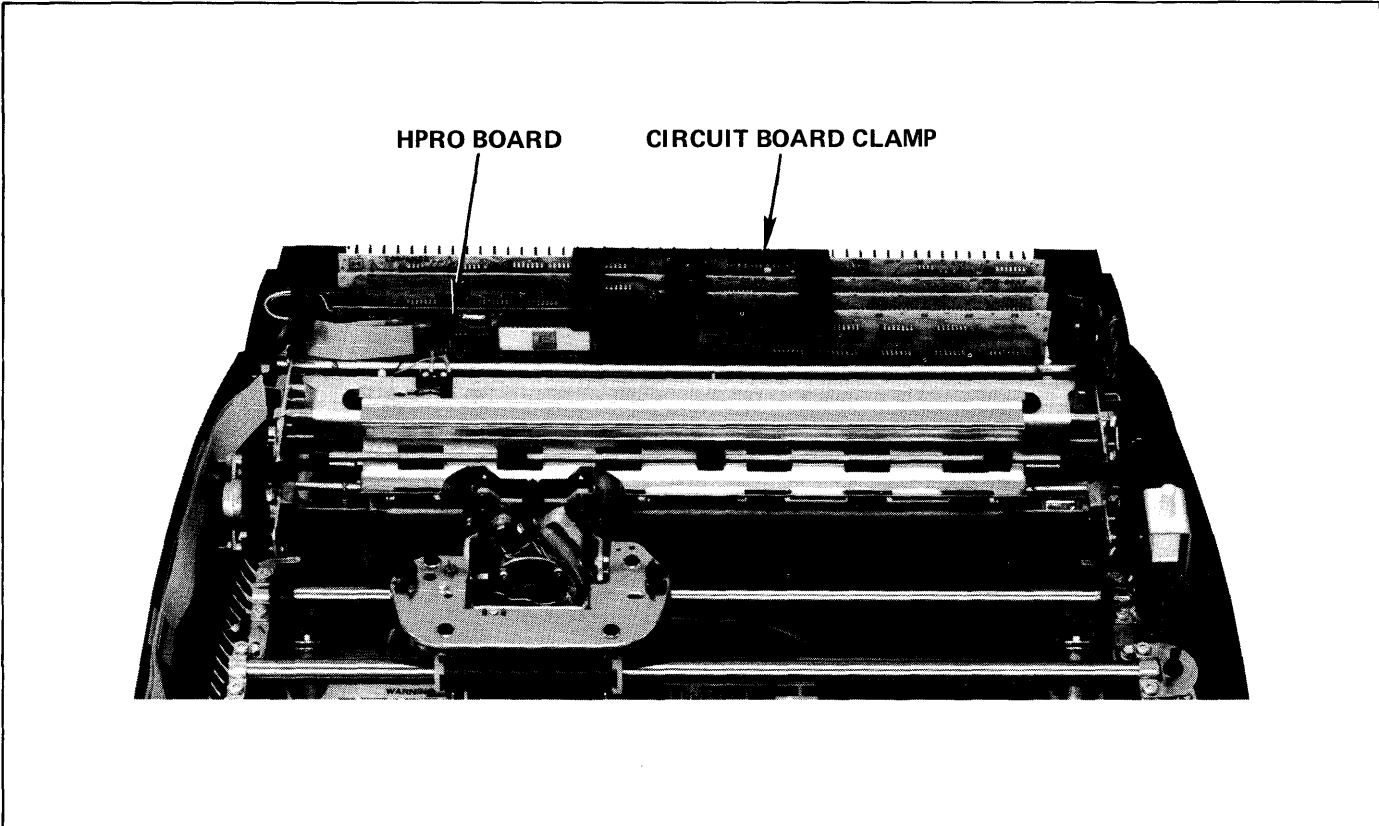

Figure 5-2. HPRO Board Location
- (5) Using a Phillips screwdriver, remove the circuit board clamp by loosening the single screw in the center. See Figure 5-2.
- (6) Locate the HPRO board. See Figure 5-2. It is the front board (closest to the platen) on the left side. Remove the board by pulling it straight up. (When reinstalling this board, after the jumper work is completed, be certain to plug it back into the front slot — note that there may be one empty slot between the HPRO board and the next board.)